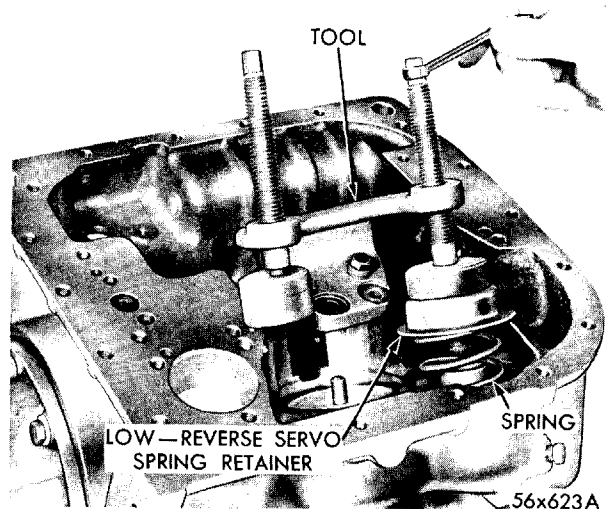

Fig. 83—Compressing Low and Reverse Servo Spring and Retainer
(1) Lubricate the low-reverse servo piston seal ring and install on piston (lip of seal facing top end of piston). Install cushion spring and plug into piston and secure with snap ring.
(2) Install piston assembly into transmission case then place reverse servo piston spring over piston and position spring retainer over spring. Using compressing tool for reverse servo piston installation, compress spring sufficiently to install snap ring. Spring retainer may require guiding into case, Fig. 83.
(3) Remove compressing tool.